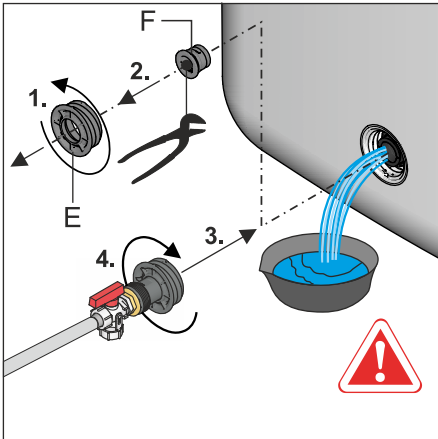

Fig. 9-4 Screwing the combined filling and draining filling connection into the filling and draining connection
- Unscrew the threaded piece on the filling and draining connection (Fig. 9-4, item E), remove the sealing plug (Fig. 9-4, item F) and **immediately screw in** the pre-installed threaded insert with **combined filling and draining filling connection** into the filling and draining connection (Fig. 9-4) again.